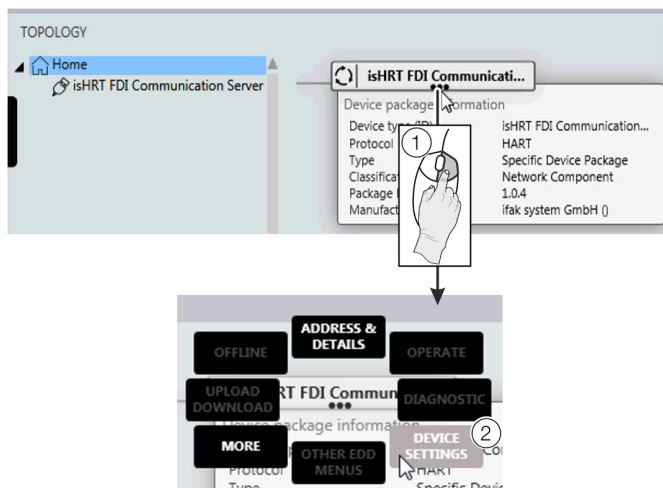

Figure 68: Select FIM – 'Device Settings'
6. Right-click ① as shown in **Figure 68**.
7. Select 'DEVICE SETTINGS' ② as shown in **Figure 68**.